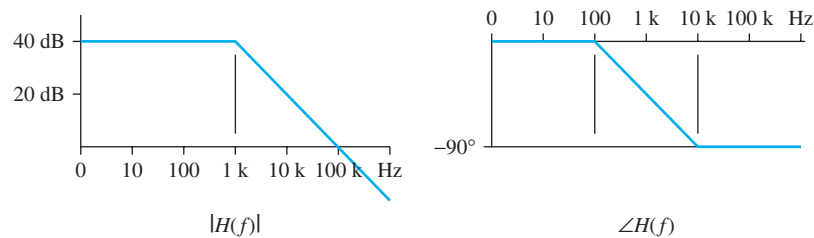

FIGURE 7.10 Bode plot for Example 7.6.
A filter has the transfer function as given by the Bode plots in Figure 7.10. *Note:* This is an active filter because of the amplification (see Chapters 8 and 11).
As can be seen in the magnitude Bode plot, shown in Figure 7.10, the gain at low frequencies is not unity (0 dB). It is 40 dB or 100 dB. The transfer function needs to express this amplification. Thus, $H_0 = 100$, and
- b. $x(t)$ includes two signals with two frequencies 100 Hz and 10 kHz. The gain at 100 Hz is $100\angle 0^\circ$ (see Figure 7.10); now, because the corresponding phasor is $3\angle -15^\circ$, the output phasor is $3\angle -15^\circ \times 100\angle 0^\circ = 300\angle -15^\circ$. The gain at 10 kHz is $10\angle -90^\circ$; thus, $1\angle 45^\circ \times 10\angle -90^\circ = 10\angle -45^\circ$. Accordingly, the total output signal is: